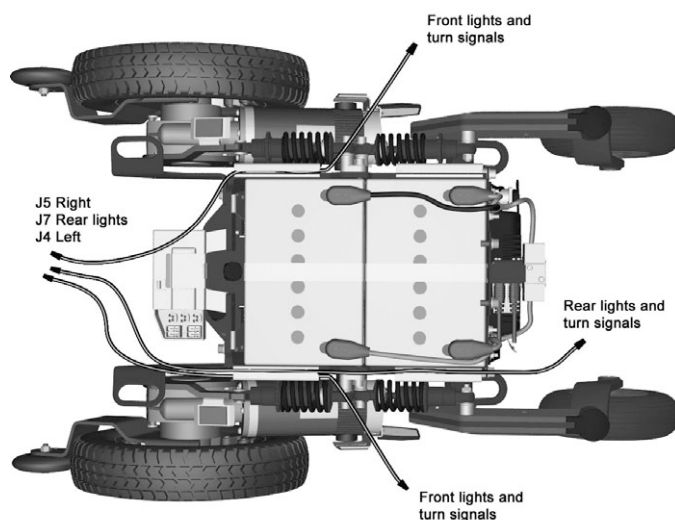

Figure 164. Lights cabling.
5. Position the lights cabling on the chassis and assemble the cables in the cable tunnels on the left and right hand side of the chassis. See fig. 164.